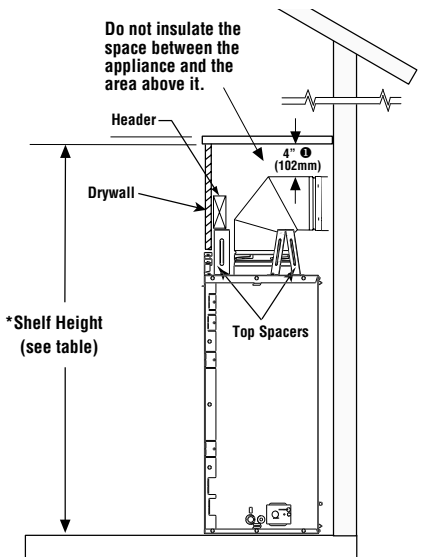

Figure 2 - Minimum Shelf Height Above Fireplace
***Note:** 3 in. (75 mm) above any horizontal vent component. See Note ❶ in **Figure 2**.
To provide for the lowest possible shelf surface, the venting attached to the top vent should be routed in a way to minimize obstructions to the space above the appliance. Do not insulate the space between the appliance and the area above it (see **Figure 2**). The minimum height from the base of the appliance to the underside of combustible materials used to construct a utility shelf in this fashion is shown in the table in **Figure 2**.